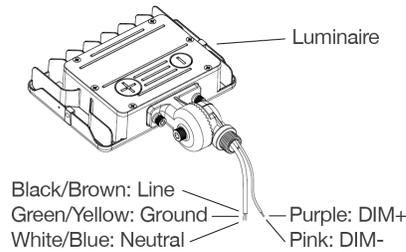

Fig. 1.4
4. Complete wire connections in pole or junction box (Fig 1.4). Please ensure that the luminaire is wired in accordance with the National Electrical Code and applicable local codes and ordinances. Proper grounding is required to ensure personal safety.